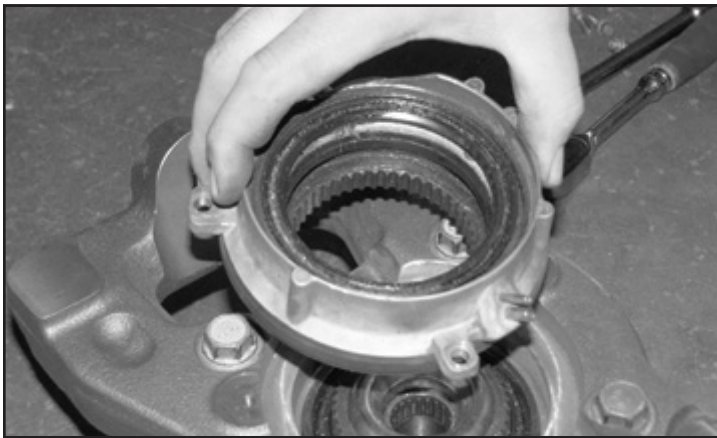

FIGURE 49 - STEP 52
52. Locate the factory 4WD actuator and install into the Fabtech spindle. Torque the factory 8mm bolts to 17 ft-lbs. **SEE FIGURE 49**